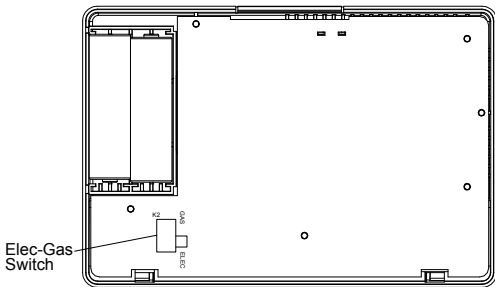

Figure 1. Electric/Gas Switch (Fan Option)
This thermostat is configured from the factory to operate a heat/cool, fossil fuel (gas, oil, etc.), forced air system. It is configured correctly for any system that DOES NOT require the thermostat to energize the fan on a call for heat. If you system is an electric heat or heat-pump system that requires the thermostat to turn on the fan on a call for heat, locate the ELEC/GAS switch on the back of the thermostat (see fig. 1) and switch it to the ELEC position. This will allow the thermostat to energize the fan immediately on a call for heat. If you are unsure if the heating/ cooling system requires the thermostat to control the fan, contact a qualified heating and air conditioning service person. When the thermostat is configured for Heat Pump, the thermostat will always power the circulator fan on a call for heat in the HEAT mode. The ELEC/GAS switch must be set to match the type of Auxiliary heat your system uses for proper operation in the EMERgency mode. All wiring diagrams are for typical systems only. Refer to equipment manufacturers' instructions for specific system wiring information.
- Fasten base loosely to wall, as shown in fig. 1, using two mounting screws. Place a level against bottom of base, adjust until level, and then tighten screws. (Leveling is for appearance only and will not affect thermostat operation.) If you are using existing mounting holes, or if holes drilled are too large and do not allow you to tighten base snugly, use plastic screw anchors to secure subbase.